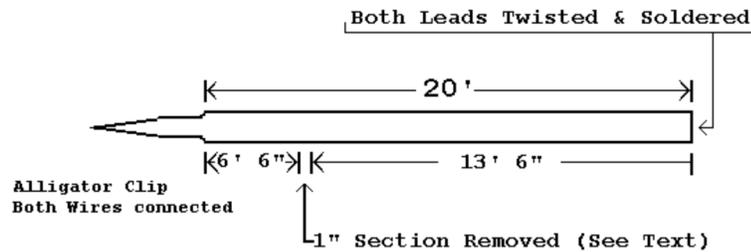

Figure 2
Shortened twinlead radials are used in this design. The smaller footprint can be helpful at some locations. Three radials work okay for casual operations. The number of radials can be increased or otherwise modified to meet builder preferences. See Figure 2.
2. Cut three 20' lengths of twinlead for the radials. Short and solder each radial at one end. Then short and solder both conductors to an alligator clip at the opposite end. Measure out 6.5' from the alligator clip. Remove a 1" section on one side of the conductor only. When you do this, use a pair of side cutters and just barely cut the wire. Then, using a pair of needlenose pliers, pull out the 1" section, doing as little damage as possible to the insulation, as you want to leave it for strength. Protect the cut with tape. this creates a continuous 33.5' folded ground wire and a 6.5' ground wire in a 20'span. The long dimension acknowledges the lowest design frequency (40M). See Figure 2.